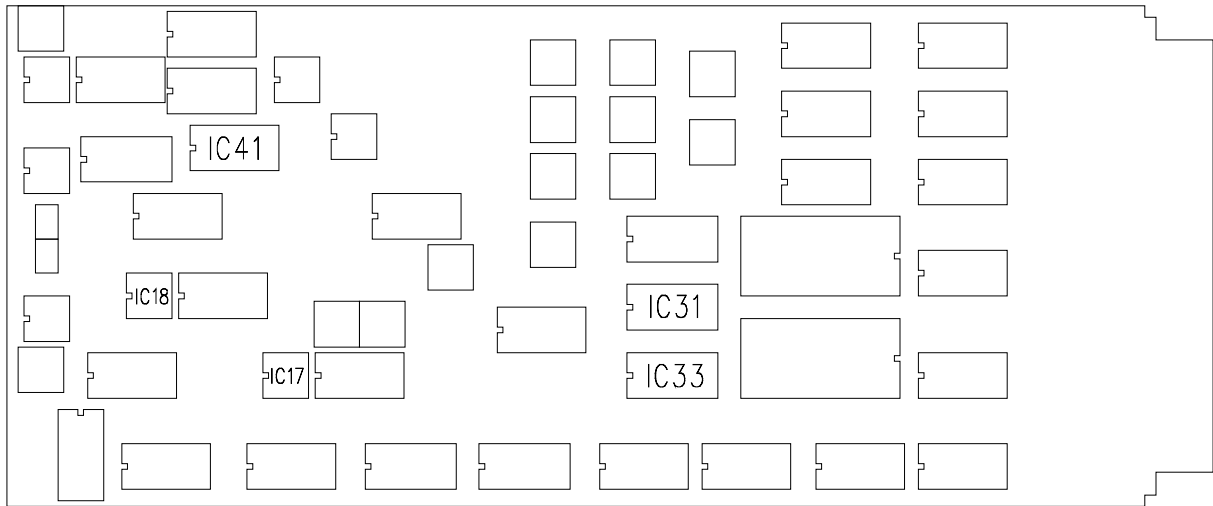

Figure 9 - Zoom Board (100761) Component Locations
1. Remove the existing Frame Timebase board (595) from the Tube Control rack.
5. Remove the Cintel X-Y Zoom board (761) or AAV Kinesis Zoom board.
6. For 761 Zoom board ONLY: Remove the following IC chips: **IC17, IC18, IC31, IC33** and **IC41**. Refer to Figure 9 (overleaf).
8. Replace the Cintel X-Y Zoom board (761) or AAV Kinesis zoom board back in its rack.